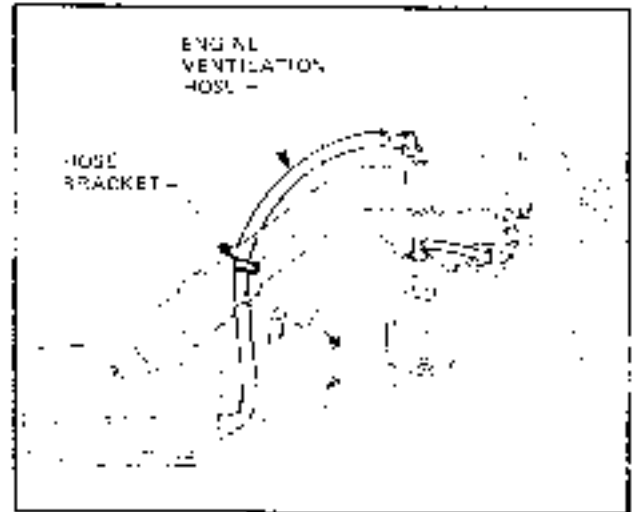

Figure 6C-74A
5. Loosen the hose clamps around each end of the air flow duct (refer Fig. 6C-75) and withdraw duct from its position.